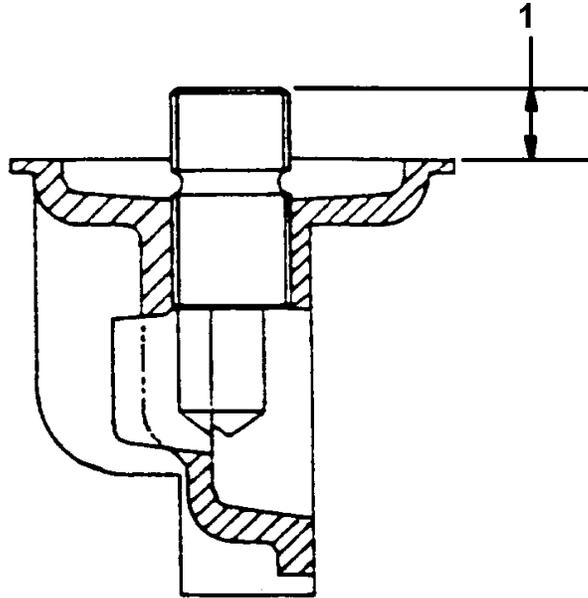

FIGURE 15-2. OIL FILTER ADAPTER STUD SETTING HEIGHT
3. See Figure 15-2, Apply a small amount of Loctite Pipe Sealant 592 to oil suction tube threads. Install oil suction tube assembly (9) into oil sump (2). Torque the oil suction tube to 310-350 inch pounds. Using a new gasket (8), install plug (7) into oil sump (2). Torque plug (7) to 185-215 inch pounds and safety wire in accordance with Section 4-2, "Lockwire Procedure."